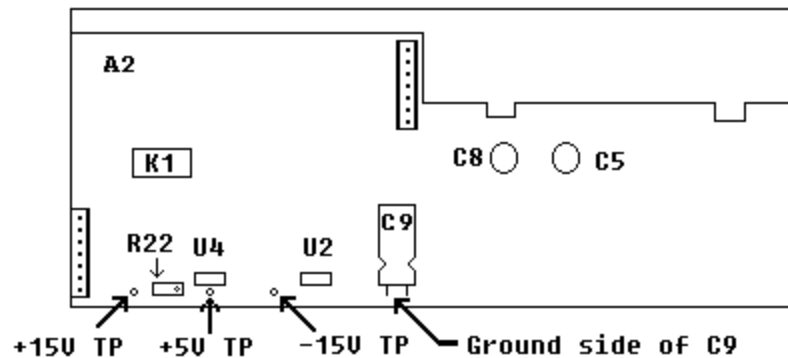

Figure 5. Power supply assembly A2 – test instrument top view.
- (1) Connect multimeter **INPUT HI** to -15 V TP (fig. 5) below and **LO** to ground side of C9 (fig. 5). Adjust R22 (fig. 5) for a multimeter indication of -14.97 to -15.03 V dc (R).
- (2) Connect multimeter **INPUT HI** to +15 V TP (fig. 5). Readjust R22 (fig. 5) if multimeter does not indicate between 14.9 and 15.1 V dc.
- (3) Connect multimeter **INPUT HI** to +5 V TP (fig. 5). Readjust R22 (fig. 5) if multimeter does not indicate between 5.01 and 5.05 V dc.
- (4) Repeat (1) through (3) above for best in-tolerance condition on all test points.
- (9) Connect multimeter **INPUT HI** and **LO** to TI **SIGNAL**. Do not use 50  $\Omega$  feedthrough termination.
- (10) Enter **5 VOLT** using **DATA** keys.
- (11) Press **AMPTD CAL** key. Adjust R22 (fig. 5) until multimeter indicates 10.000 V dc.
- (12) Enter **-5 VOLT** using **DATA** keys.
- (13) Multimeter will indicate between -9.985 and -10.015 V dc.